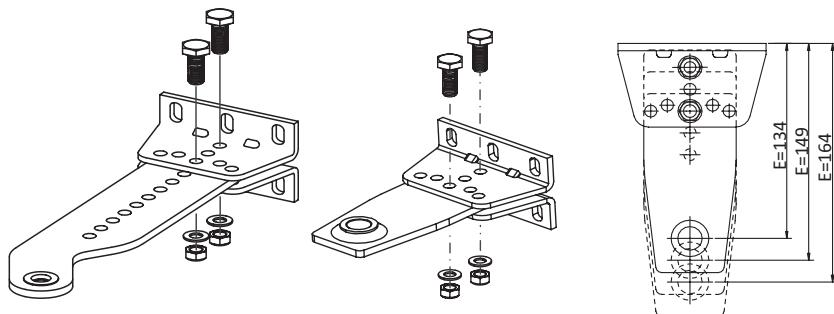
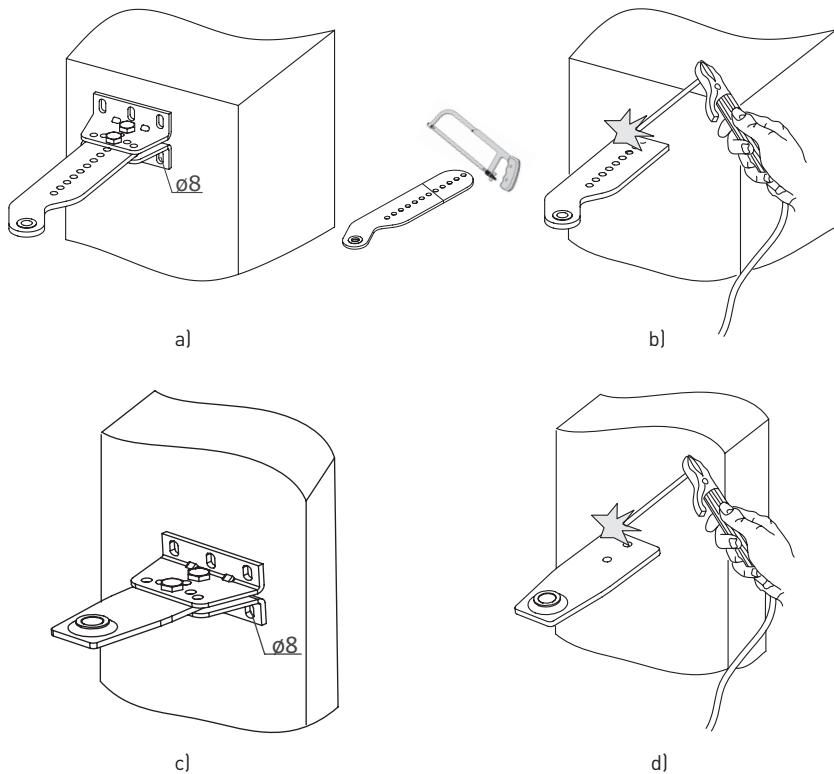
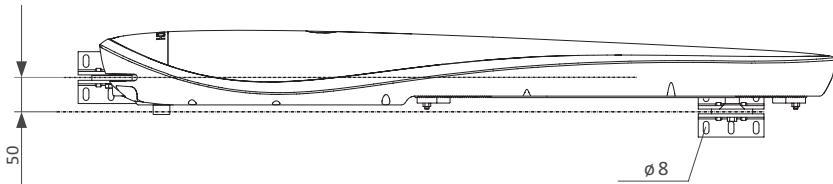

Figure 8. Assembling a rear, front fitting
Figure 9. Mounting a rear or front fitting
Figure 11. Mounting a front fitting
A and B — dimension between the leaf hinge axis (leaf rotation centre) and the axis for mounting a drive on its rear fitting; C — dimension between the leaf hinge axis and a post edge; W — dimension between the leaf hinge axis and the axis for mounting a drive on its front fitting; E — dimension between a leaf edge and the axis for mounting a drive on its front fitting (fig. 8); minimum dimension $E=134$ mm; α — leaf opening angle;
- after defining the mounting dimensions, A and B and a location to attach a rear fitting to the post, select an assembly type for the rear fitting (tab. 6, fig. 8). When needed, cut the bracket of the rear fitting to the required size. In case the bracket is not long enough, use improvised materials to add length to the rear fitting.
- fix the rear fitting on the post, either bolting it down or welding (fig. 9). Make sure the fitting is positioned horizontally. The fitting should be assembled and mounted rigidly.
- ensuring compliance with the mounting dimension W, fix the front fitting on the leaf (fig. 11). The length of the front bracket E can be adjusted (fig. 8), in this case note the condition $B>X$. In case the bracket is not long enough, use improvised materials to add length to the front fitting. The fitting can be bolted or welded to the leaf (fig. 9). Use a spirit level to verify throughout the mounting process.